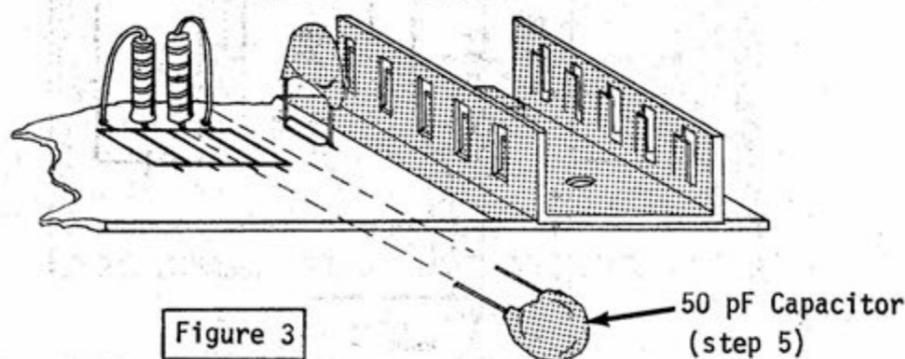

Figure 3
Step 5: Install a 50 picofarad capacitor as shown in figure 3.